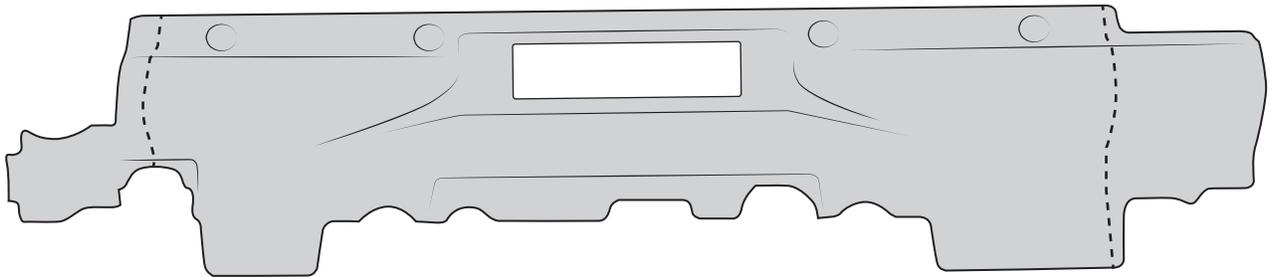

Figure 35
11. Trim and install the upper radiator shroud. Also remove the factory decal on the upper shroud and install the supplied AEV decal (fig 35).